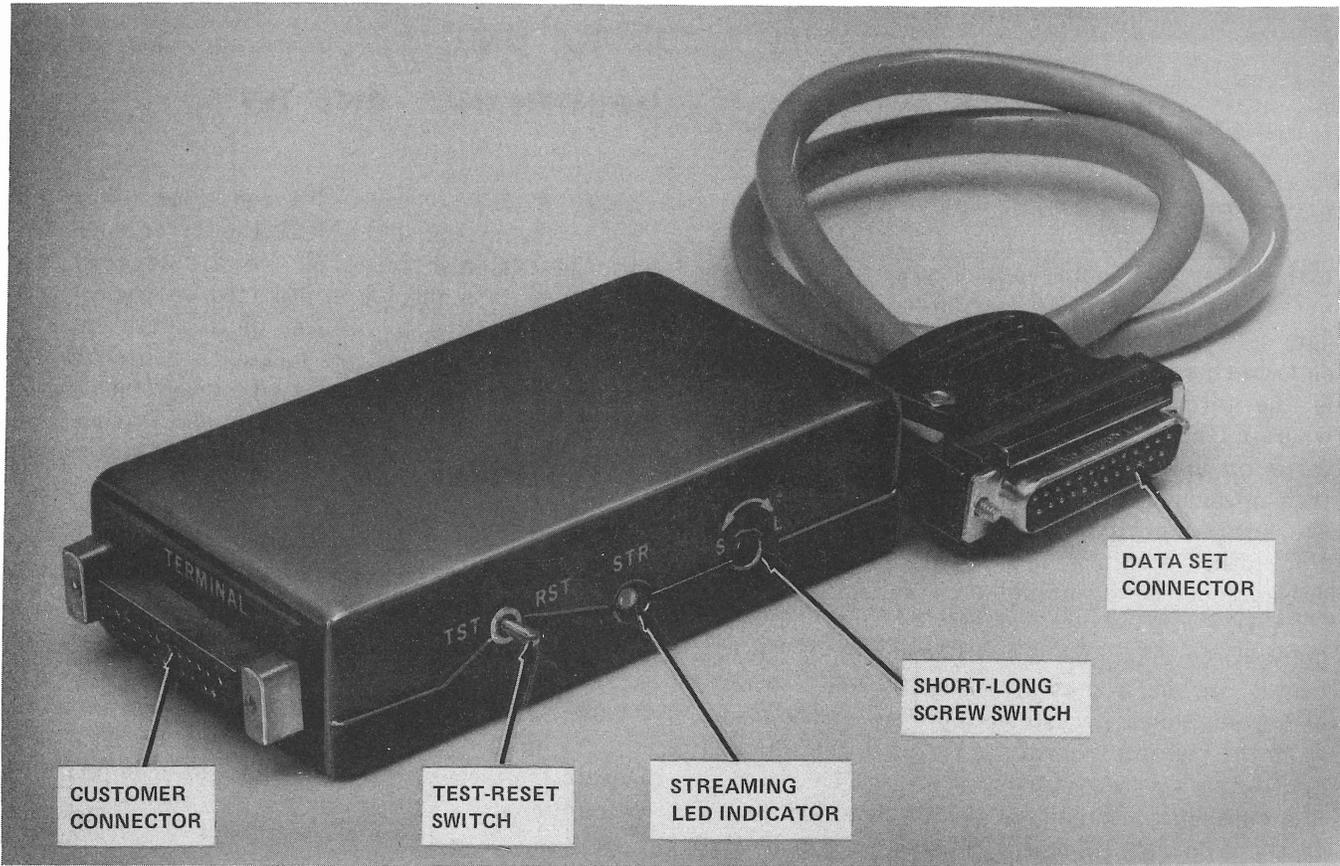

Fig. 1—200A Data Control Unit
2.02 A 25-pin female EIA connector is provided on one end of the DCU (Fig. 1) for connecting to the customer terminal. A 2-foot cord with 25-pin male connector is provided on the opposite end of the DCU to connect to the data set. On the side of the DCU are located a neutral-center, bat-handle toggle switch with positions labeled TST (test) and RST (reset); a light-emitting diode (LED) indicator labeled STR to show when streaming is occurring or has occurred; and a screw switch labeled S-L (short-long).